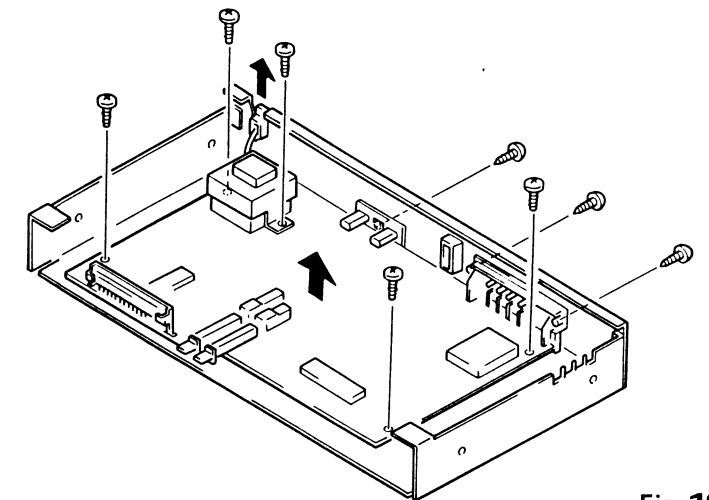

Fig. 10
5. How to remove the Main Unit P.W.B. (Fig. 10)